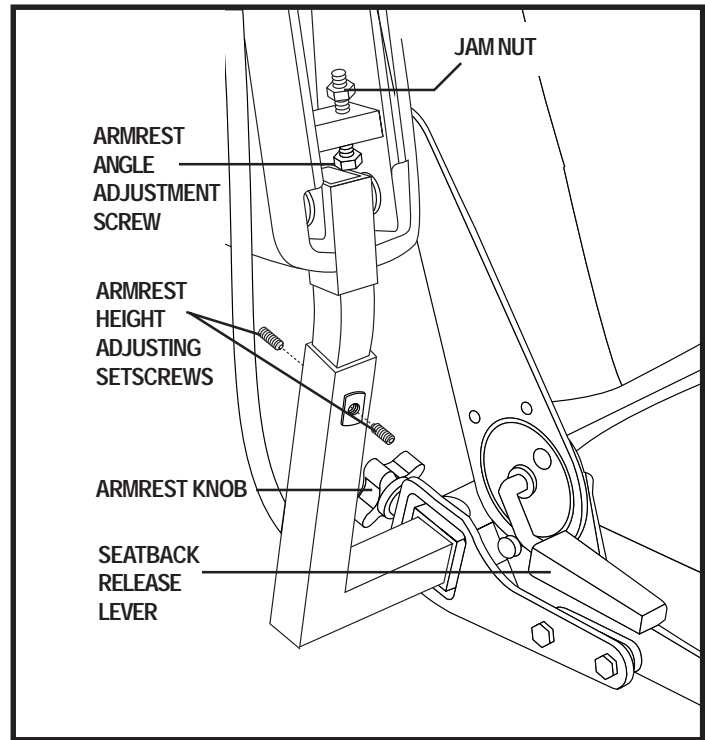

Figure 21. Armrest and Seatback Adjustments
If your power chair is equipped with a manual recline seatback, you can adjust the seatback angle with the seatback release lever. The lever is located on the right side of the seat base. See figure 21.
1. Locate the two armrest knobs on each side of the armrest receiver bracket. See figure 21.
1. Lift the armrest straight up so that it is perpendicular to the floor. See figure 21.
1. Loosen the setscrews on the armrest. See figure 21.